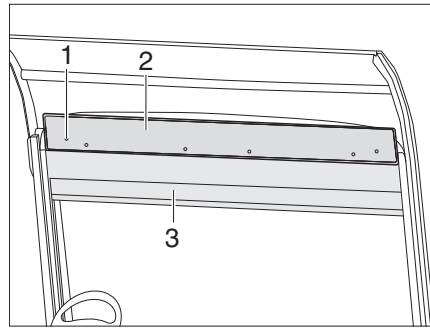
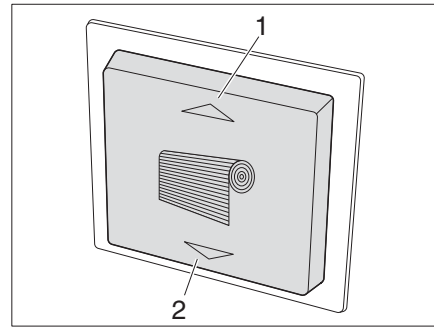

Fig. 76 Electric blind for the windscreen
Fig. 77 Switch for blind
Closing: ■ Press the (Fig. 77/2) button. The blind (Fig. 76/3) moves down.
Opening: ■ Press the (Fig. 77/1) button. The blind (Fig. 76/3) moves up.
- Unscrew 6 screws (Fig. 76/1) on the blind box and remove the panel (Fig. 76/2).
- Hang the crank in one of the two motors and raise or lower the blind (Fig. 76/3).